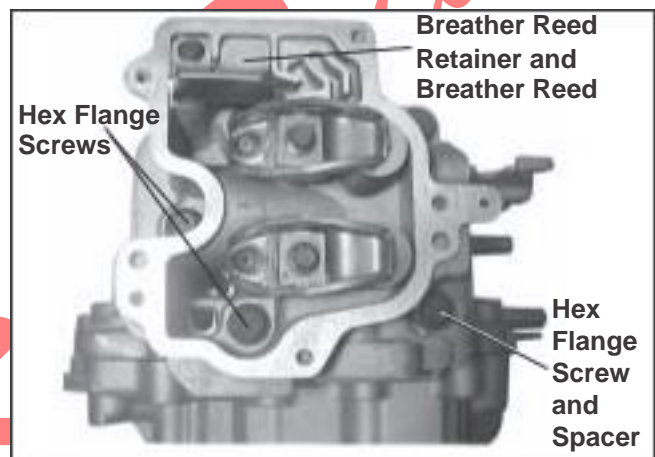
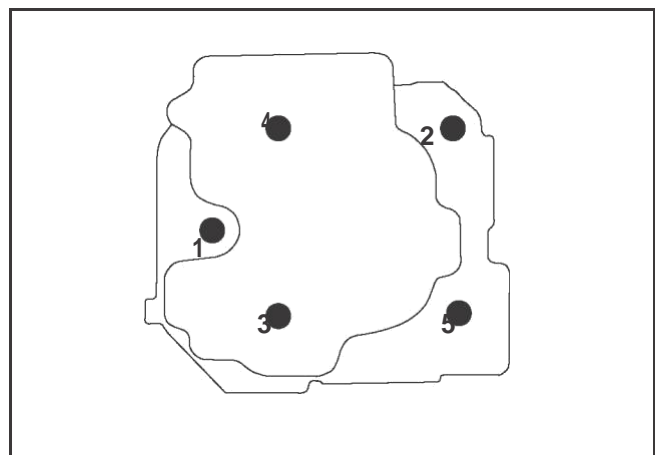

Figure 11-34. Installing Cylinder Head.
Figure 11-35. Cylinder Head Fastener Torque Sequence.
5. Install the breather reed, reed retainer and secure with the M5 hex flange screw. Torque the screw to **6.2 N·m (55 in. lb.)** in new hole, or **3.9 N·m (35 in. lb.)** in used hole. See Figure 11-34.
3. Install a new cylinder head gasket and the cylinder head assembly on the crankcase. Slide the spacer and washer onto one of the new head bolts, and install it in the #5 position (between the intake and exhaust ports). See Figure 11-34. If the engine has a high temperature cutout switch, insert the new long (90 mm) head bolt through the special washer (flat on one edge) and cutout switch, and install it in the #1 position. See Figure 11-35. Install the remaining new head bolts. Following the sequence in Figure 11-35, torque the bolts to **24 N·m (18 ft. lb.)**. Then repeat the sequence to a final torque of **48.9 N·m (36 ft. lb.)**.